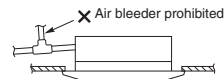

Fig. 3-11
- Do not install an air bleeder as this may cause water to spray from the drain pipe outlet. (Fig. 3-11)